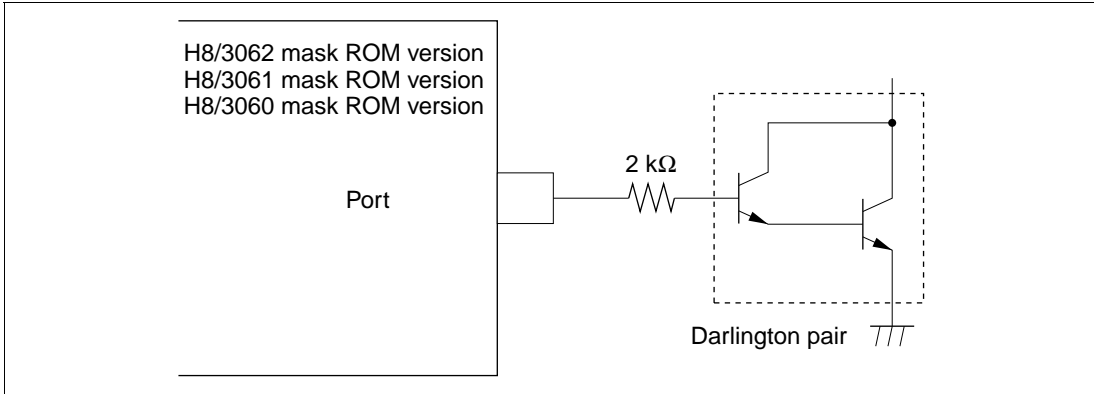

Figure 22.1 Darlington Pair Drive Circuit (Example)
2. When directly driving a darlington pair or LED, always insert a current-limiting resistor in the output line, as shown in figures 22.1 and 22.2.